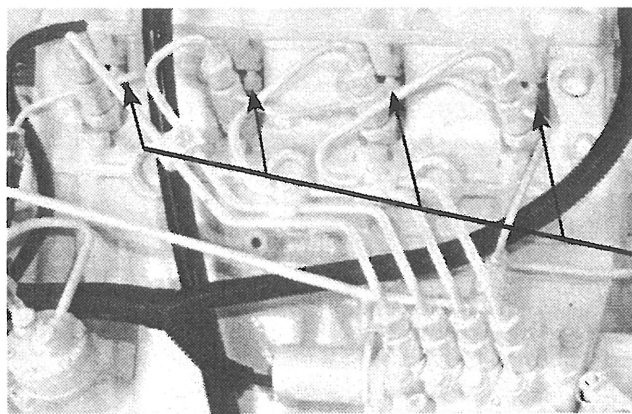

Figure 18. Glow Plugs (behind injectors)
2. To check the glow plugs, loosen the current carrying flat wire between the plus-poles of the glow plugs (Figure 18.) Connect a DC test bulb between the plus-pole of the battery and the plus-pole of the glow plug. If the bulb lights up, the glow plug is functioning properly.